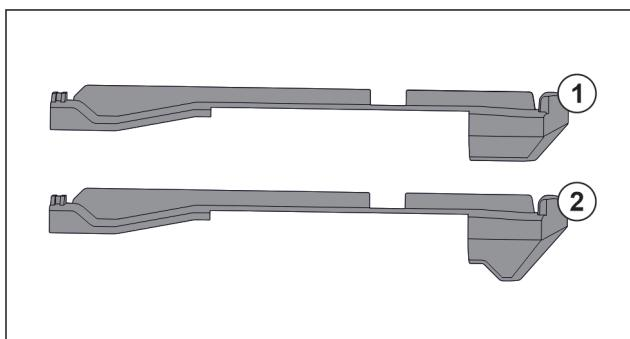

Fig. 78 Comparing attachments
There are two different attachments in the appliance. The attachment above the lowest drawer Fig. 78 (2) has a three-cornered edge. All other attachments Fig. 78 (1) have a straight edge.
- ▶ Fit attachment Fig. 78 (2) with the three-cornered edge above the lowest drawer.
- ▶ Fit attachment Fig. 78 (1) with straight edge in all other positions.